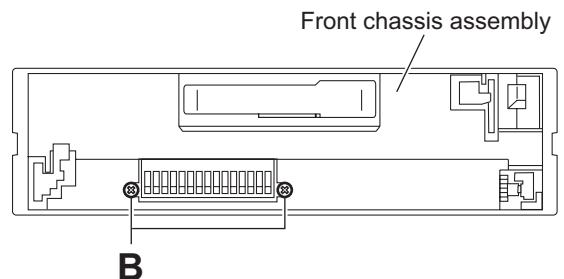

Fig.4
- (2) Remove the two screws **B** on the front side of the main body. (See fig.4)